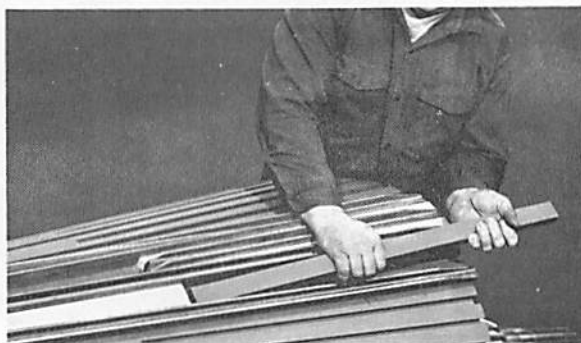

Fig. 4 Driving Small End Plug Woods Into Position
4. Install the small-end plug woods (dressing slightly on the sides if necessary) so they will slide freely to within $\frac{3}{4}$ inch of their final position. Drive the plug woods to the end plate. A steel bar 3 or 4 feet long as shown in Figure 4 is useful for driving the plug woods into position.